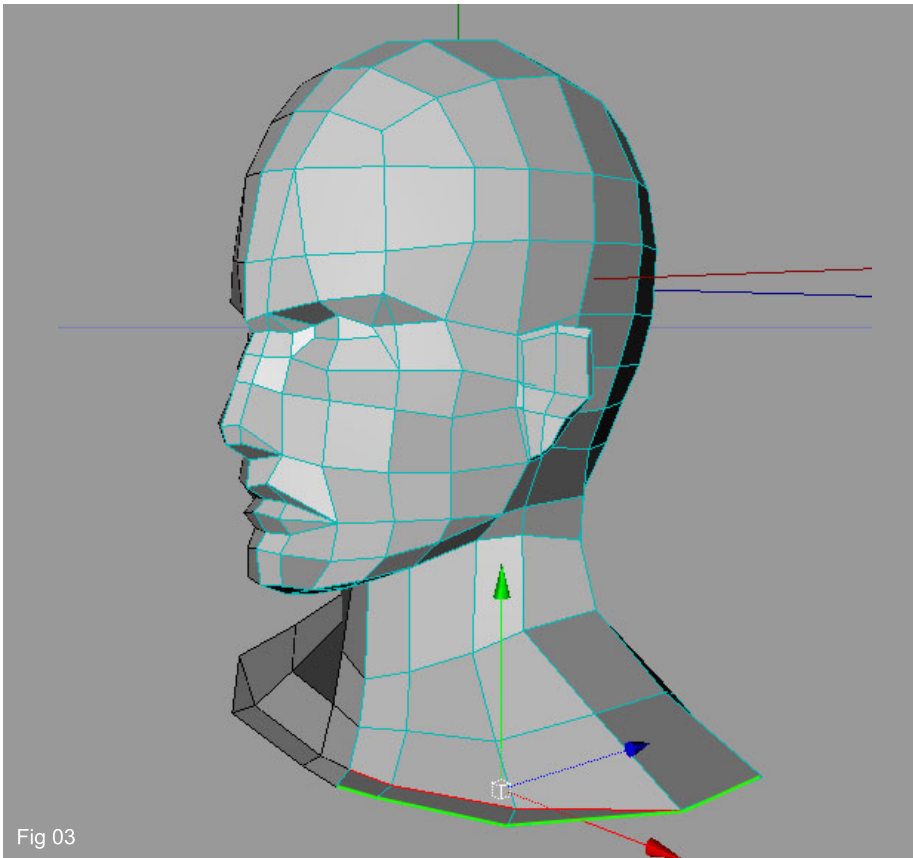

Fig 03
3. Now make a cut across the front three poly's to form the clavicle as seen by the red line in Fig03 using the same technique as before - selecting the edges and apply the "Edge Cut" tool or connecting the edges by "Knife" tool.